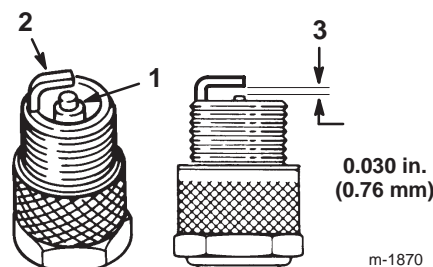

Figure 21
1. Look at the center of the spark plug (Fig. 21). If you see light brown or gray on the insulator, the engine is operating properly. A black coating on the insulator usually means the air cleaner is dirty.
2. Check the gap between the center and side electrodes (Fig. 21). Bend the side electrode (Fig. 21) if the gap is not correct.